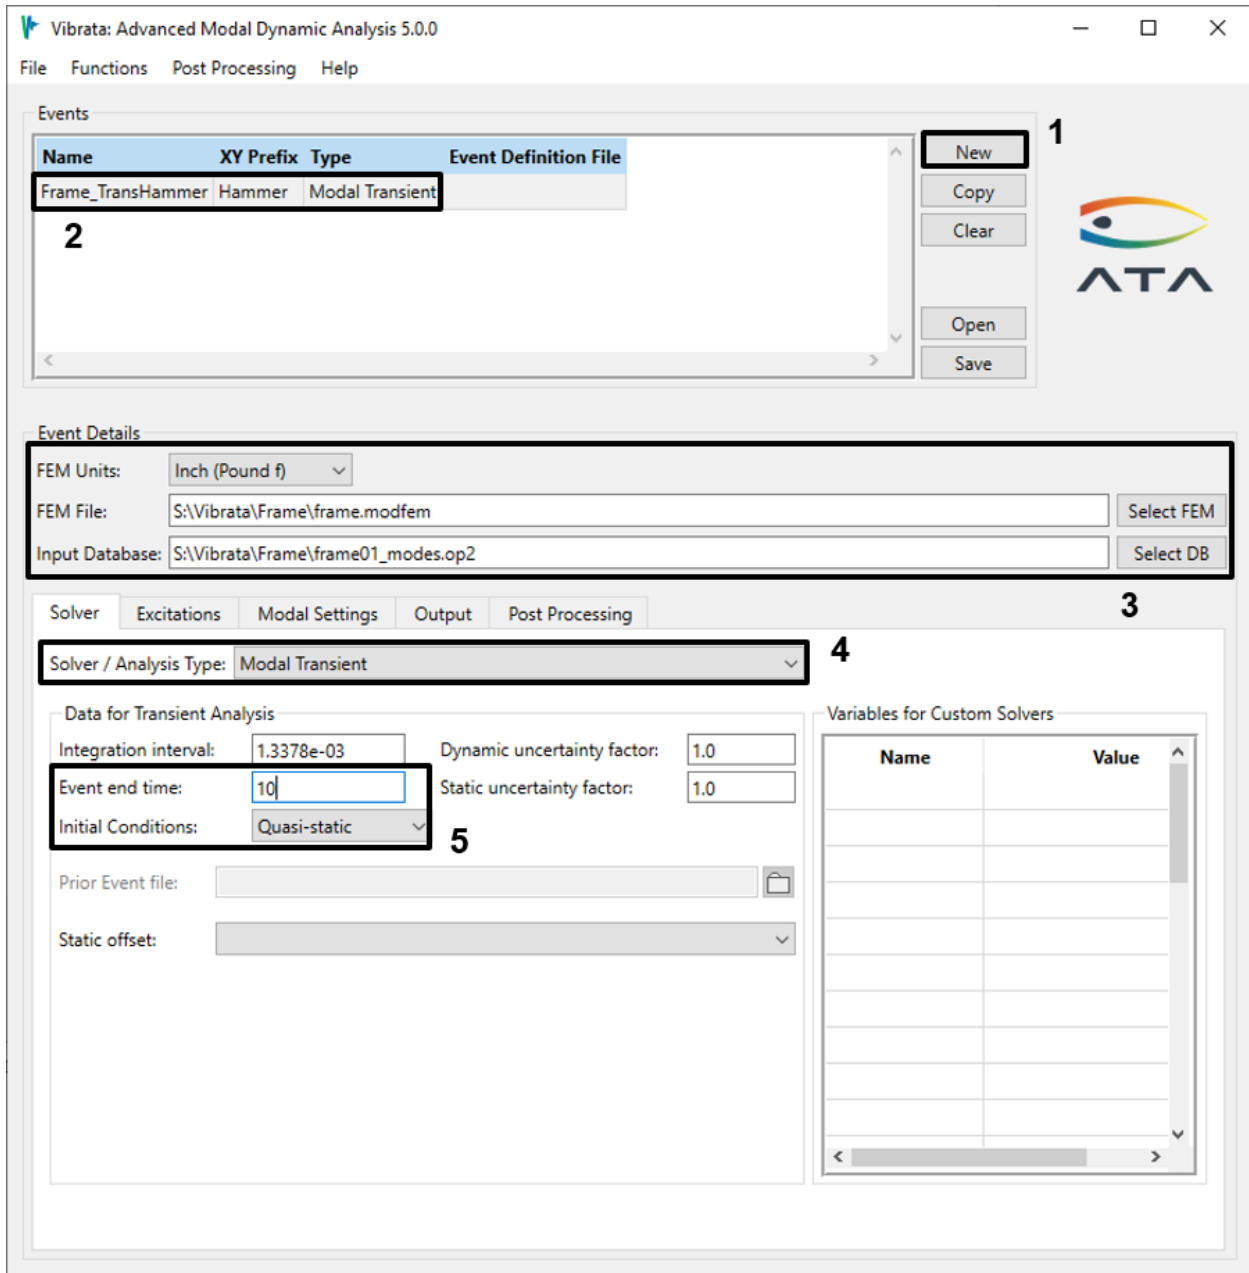

Figure 4-111. Solver setup for frame model transient analysis.
2. In the Event Manager, set up a new transient event and select the frame's modfem file and the OP2 file "frame01_modes.op2". Set the event end time to 10 seconds and its initial conditions to Zero, as shown in Figure 4-111. As always, be sure to assign a recognizable event name.